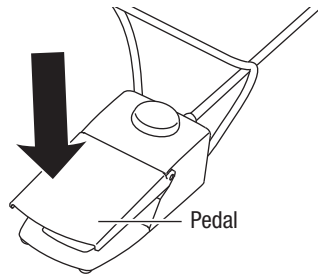

Fig.3
- 1 When depressing the pedal of the foot control, the motor starts to operate. When depressing the pedal or releasing it, a short alarm sounds (Fig. 3).